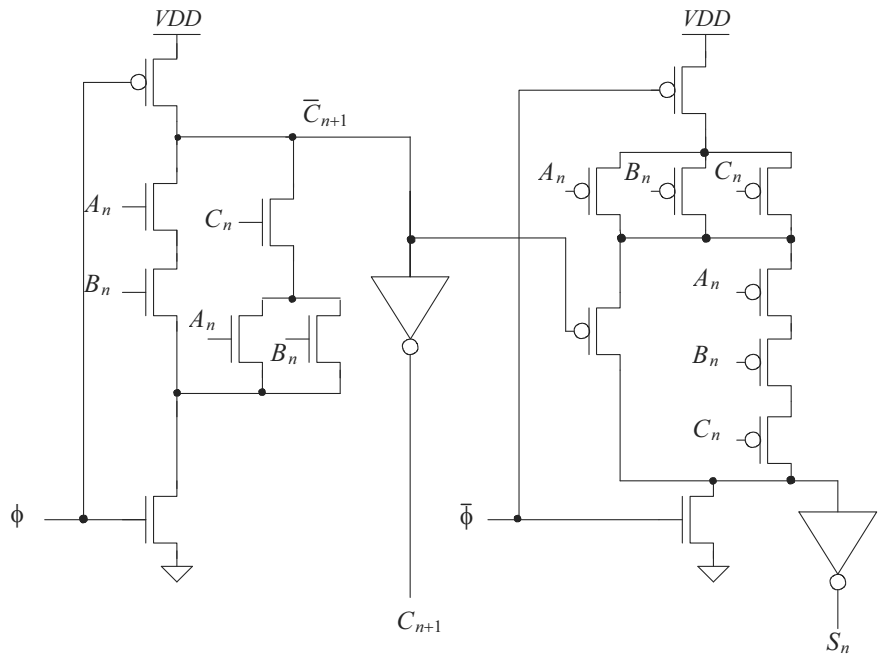

Figure 14.19 A high speed adder cell. See Problem 14.10.
- 14.10** The circuit shown in Fig. 14.19 results from the implementation of a high-speed adder cell (1-bit). What type of logic was used to implement this circuit? Using timing diagrams, describe the operation of the circuit.
- 14.11** Discuss the design of a 2-bit adder using the adder cell of Fig. 14.19. If a clock, running at 200 MHz, is used with the 2-bit adder, how long will it take to add two words? How long will it take if the word size is increased to 32 bits?